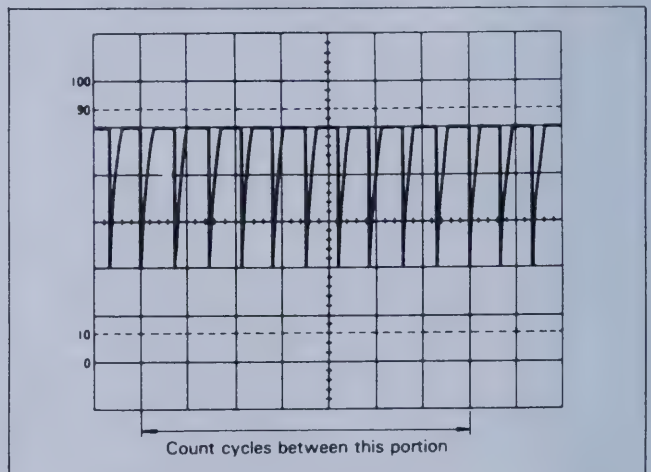

Fig. 10. Alternate Method of Frequency Measurement.
Method No. 2 (Refer to Fig. 10)
2. Count the number of cycles of waveform between a chosen set of vertical graduation lines (see Fig. 10).